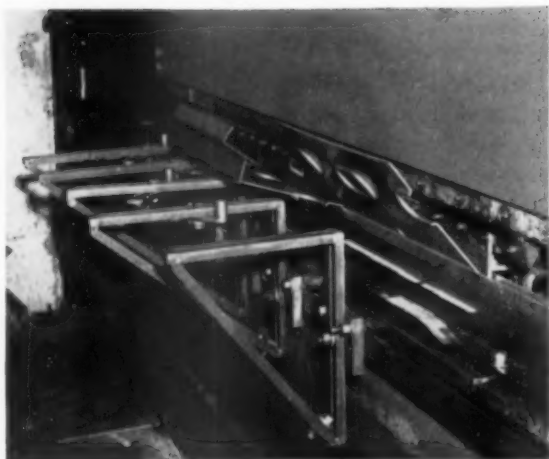

Fig. 1. Set up for a serial operation, this machine performs several operations on the same piece before it is removed.
Ram length will also control the number of operations that can be run at the same time. New economies have been realized in serial operations whereby a piece is blanked in one die and then moved to other dies for notching and forming, passing through a series of processes without ever being put down and picked up again or going to another machine, *Fig. 1*. The advantage of this type of production is becoming increasingly evident. It is not uncommon to see three or four men working on one press brake, each doing a separate operation.
**V**ACUUM TESTING, being a simple method for production testing, requires very few major parts for the system. The primary elements required are a vacuum pump, valves, gages and a seal pad. In the system illustrated in *Fig. 1*, vacuum is produced by a water-jet pump which has only one moving part. Since there is only one moving part and the work medium producing the vacuum is water, there is no deterioration in the vacuum producing capacity as the unit ages.
**Fig. 1.** The vacuum tester is a compact piece of equipment. Shown here is the valving, vacuum pump and motor. Above the table can be seen part of the instrumentation.